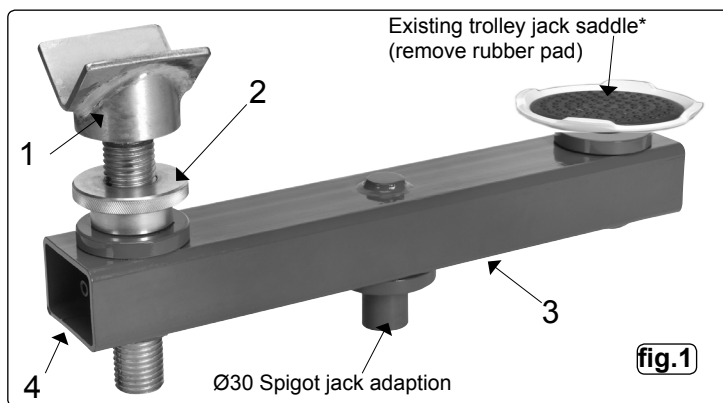

fig.1
- 3.1. Wind the knurled thumb nut (item 2) on to the threaded yoke (item 1) with knurled shoulder uppermost as in fig.1.
- 4.2. Place the assembled beam as shown in fig.1 on to the jack spigot hole.